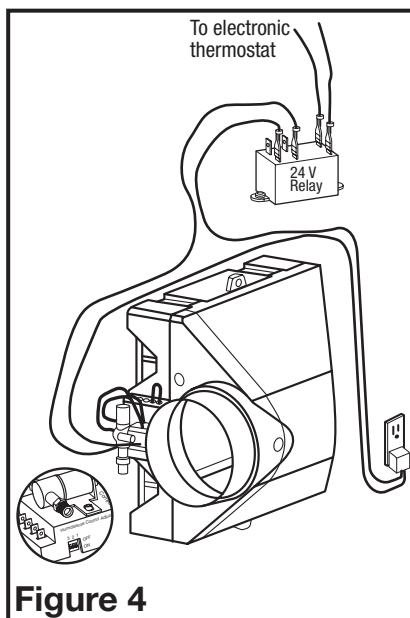

Figure 4
**Connecting Humidifier to Existing Electronic Thermostat (Figure 4).** This allows the existing electronic thermostat to control humidifier's cycles.
**Model 6000:** Connect the two plug in transformer wires to the humidifier's side panel terminals 24 VAC IN. At the relay separate the plug in transformer wires. Referring to Figure 4, cut one of the wires, strip the ends and using the 1/4" electrical terminals connect to the relay's "Common" & "Normally Open" terminals.